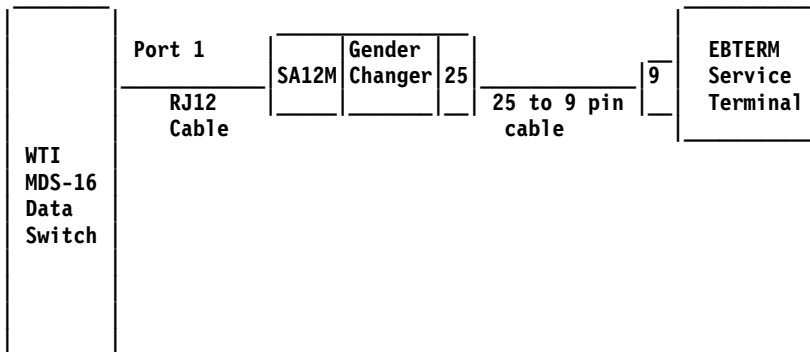

Figure 11-3. Local Setup and Test of MDS Switch
- b. Connect this RJ12 cable to a spare SA12 connector with a gender changer to the end of the Service Terminal 9 to 25 pin cable (see Figure 11-3).